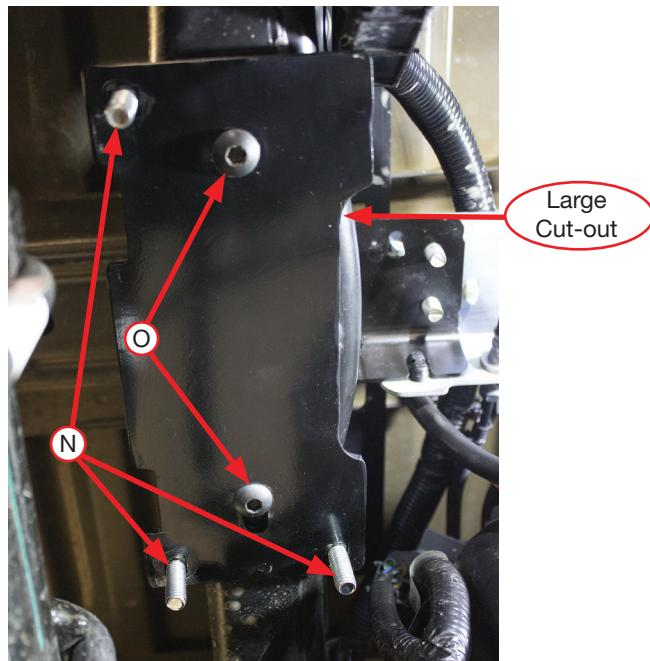

Fig. 6
4. Insert the 3/8"-16 x 1 1/4" carriage bolts (N) into the upper frame bracket (D). Install the upper frame bracket onto the frame using the M10-1.5 x 35mm button-head cap screws (O) so that the large cut-out on the side of the bracket is inboard of the frame rail and the slotted hole in the center is forward (Fig. 6). Torque hardware to 38 lb.-ft. (52Nm).